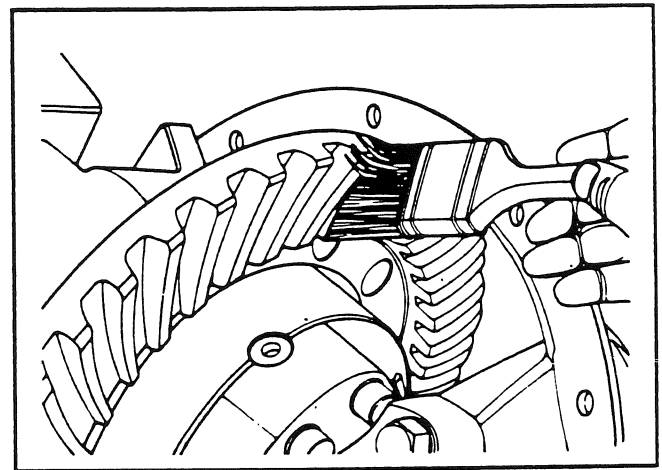

Fig. 79
3. Apply marking compound to twelve teeth of the ring gear (see Fig. 79). Turn the ring gear so that the twelve teeth are next to the drive pinion. Move the ring gear forward and backward past the drive pinion six times to make the contact patterns on the twelve teeth. Repeat if needed for a clearer pattern.